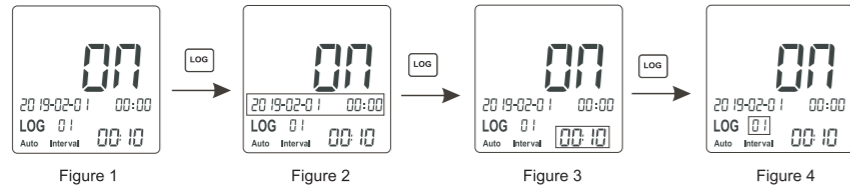

Figure 1
- In the HOLD interface, press the SET button for 3s to enter the lock measurement setting interface, then short press the SET button once to enter the scheduled measurement setting interface, and turn on/off the scheduled measurement by pressing the ▲ or ▼ button (see Figure 1).